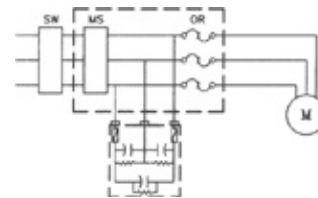

Figure 2 – For existing motor installations
**Note:** In Figures 2 and 3, the thermal-overload relay does not require replacement since full motor current continues to flow through it.